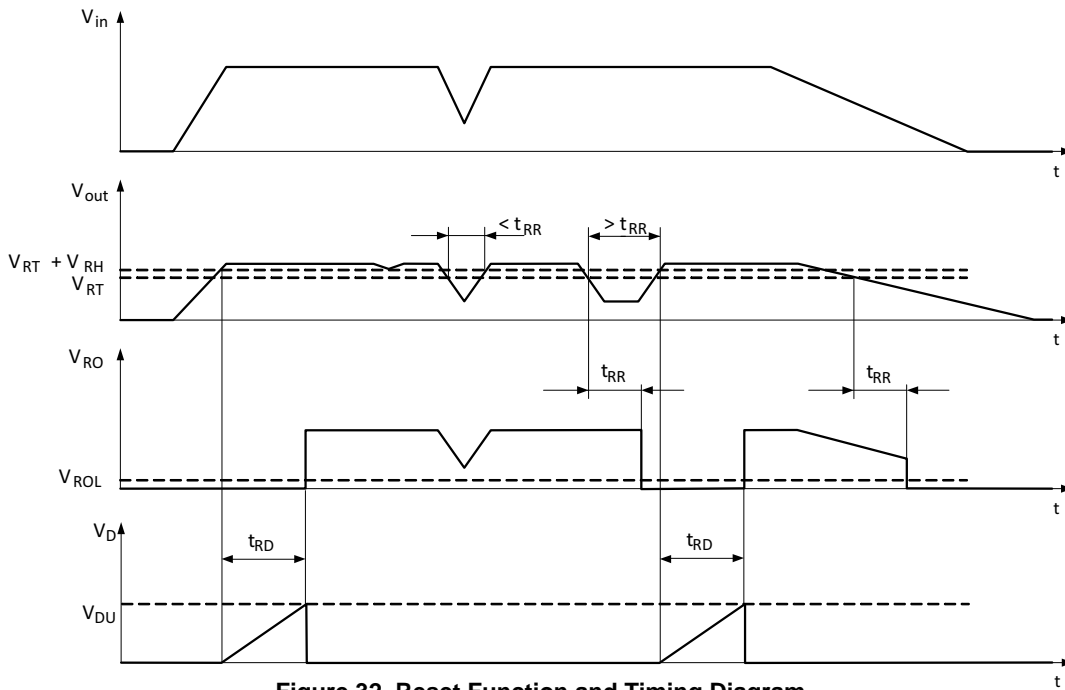

Figure 32. Reset Function and Timing Diagram
A reset signal is provided on the Reset Output (RO) pin to provide feedback to the microprocessor of an out of regulation condition. The timing diagram of reset function is shown in Figure 32. This is in the form of a logic signal on RO. Output voltage conditions below the Reset threshold cause RO to go low. RO is pulled up to V_{out} by an external resistor, typically 5.0 kΩ in value. Output voltage regulation must be maintained for the delay time before the reset output signals a valid condition. The delay for the reset output is defined as the amount of time it takes the timing capacitor on the delay pin to charge from a residual voltage of 0 V to the upper timing threshold voltage V_{DU} of 1.3 V. The charging current for this is I_D of 4 μA and D pin voltage in steady state is typically 0 V. By using typical IC parameters with a 47 nF capacitor on the D Pin, the following time delay is derived: